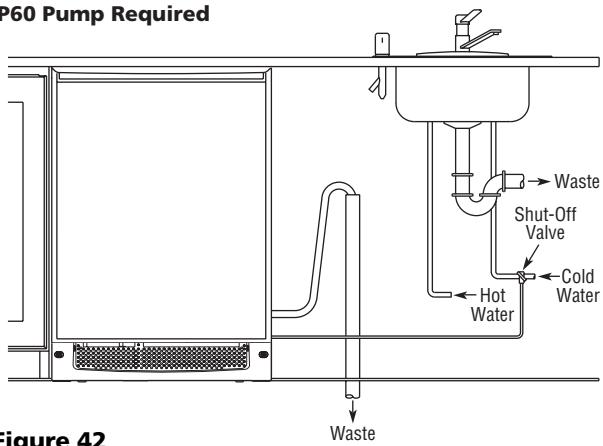

Figure 42
If your drain line will run up to a stand pipe, disposal assembly or spigot assembly or does not otherwise meet the requirements for a Gravity Drain, you may have ordered the CLR2160 or CLRCO2175 with a U-Line P60 Drain Pump. See **Figures 42, 43 and 44** for typical installations requiring a Drain Pump. If you need to install a P60 Drain Pump into your unit, see *Locally-Installed Drain Pump on Page 17*.
9. After unit is in its final position, finish routing drain tube to the desired location. Common installations use a floor drain, standpipe, garbage disposal, or Y-branch tailpiece type drain connection (see **Figures 42, 43 and 44**).